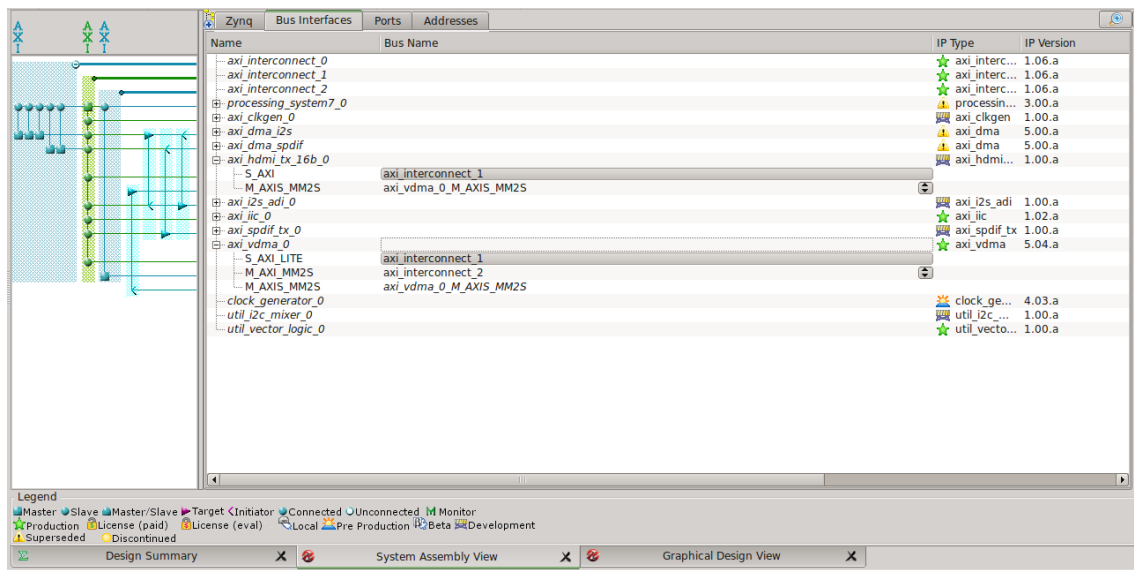

Figure 1.5.: HDMI project system assembly view.
4. In the XPS environment, open `videoprocessing_prj/system.xmp` project. This will open an already created project for HDMI display. Select the *Bus Interfaces* tab. The system assembly view should look like Figure 1.5.